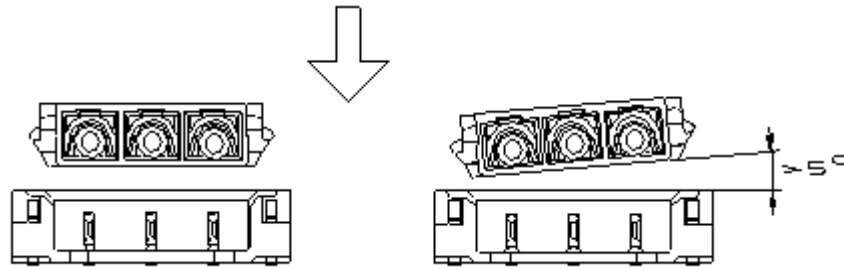

FIG. 2
3.1.1 During mating process, If incase the plug is angle mated towards the straight part of mating entrance as in fig. 2, the allow angle must not exceed 5°.